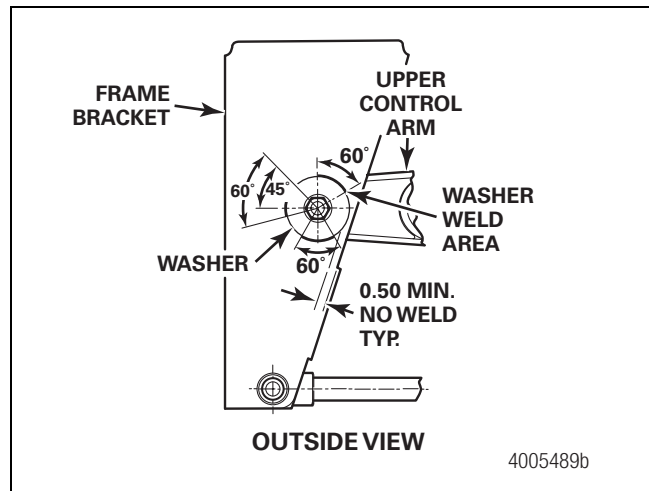
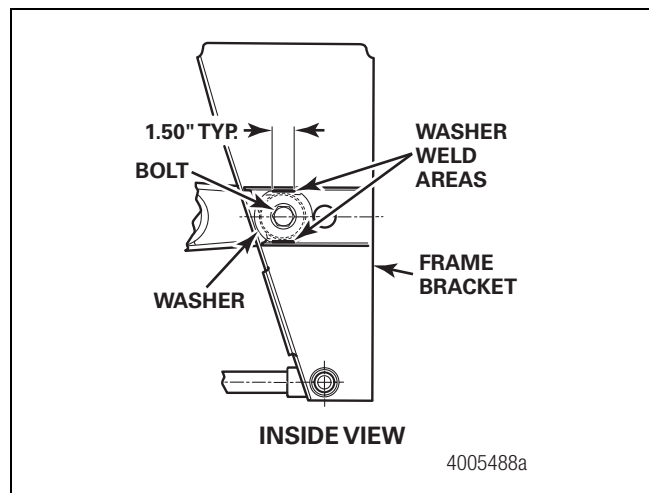

Figure 9
Figure 10
12. Weld the inner and outer special washers. Place a wet rag inside the side plate when welding the special washers to absorb the heat. Do not expose the new bushings or thrust washers to excessive heat, or they will be damaged. Figure 9 and Figure 10.